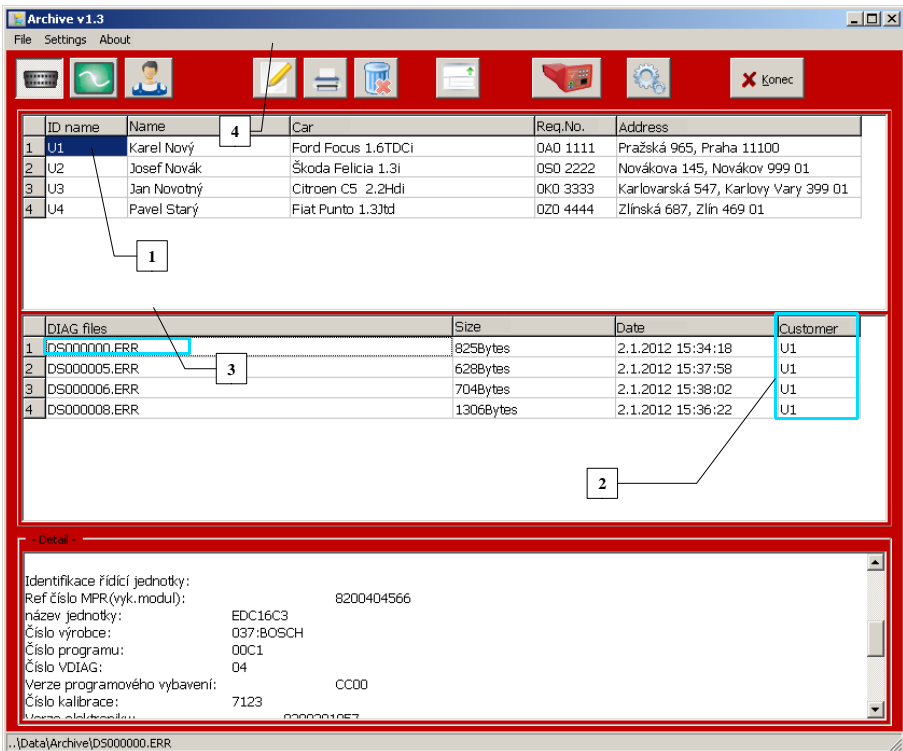
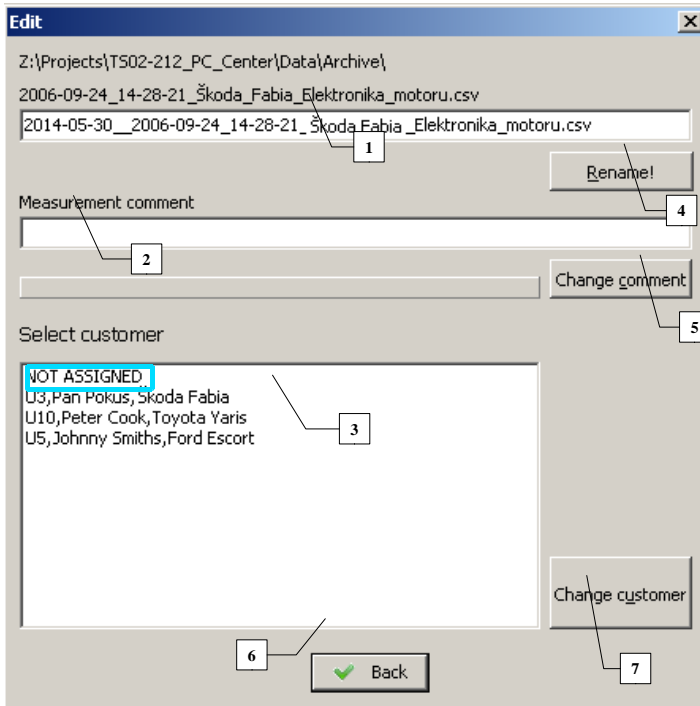

Figure 6.6
Figure 6.8
appears after clicking on an item from the list in the Detail window (2). An example of such record can be found on the *Figure 6.8*, where you can see information about the control unit from which this record comes from, vehicle type, control unit type and its identification and error memory content.
If you want to work with the database of your customers, click on the third icon from left (3). The window is divided into three parts (Figure 6.6). There is a list of customers in the first part (1), containing their ID, name, vehicle type, license plate and address. In the second part (2) you can find the list of records from oscilloscope or diagnosis database (the type of the selected database is highlighted (Figure 6.6)) assigned to a selected customer. The third part of the window (3) shows the content of the record selected in the second window. The items in this third window can be also sorted in the same manner as the oscilloscope and diagnosis files.
Saved data can be modified after clicking on the Modify file icon (*Figure 6.6 - 4*). You can alter or add informations about any saved oscilloscope or diagnosis file. The file's name, measurement description and customer assignment can be changed. Changing file name is done in the window (1). You can write file's new name here and by clicking Rename! (4) the name is changed. Changing or adding of a measurement comment is done in the window (2) following the same procedure as in renaming file. The window (3) is designed for changing customer assignment. To assign a new customer to the record, click on his or her name in the list and click on the Change customer icon. If you want to remove an assignment, click on the sign NOT ASSIGNED (highlighted on *Figure 6.8*). If you don't want to do any changes anymore, click the Back icon (6).